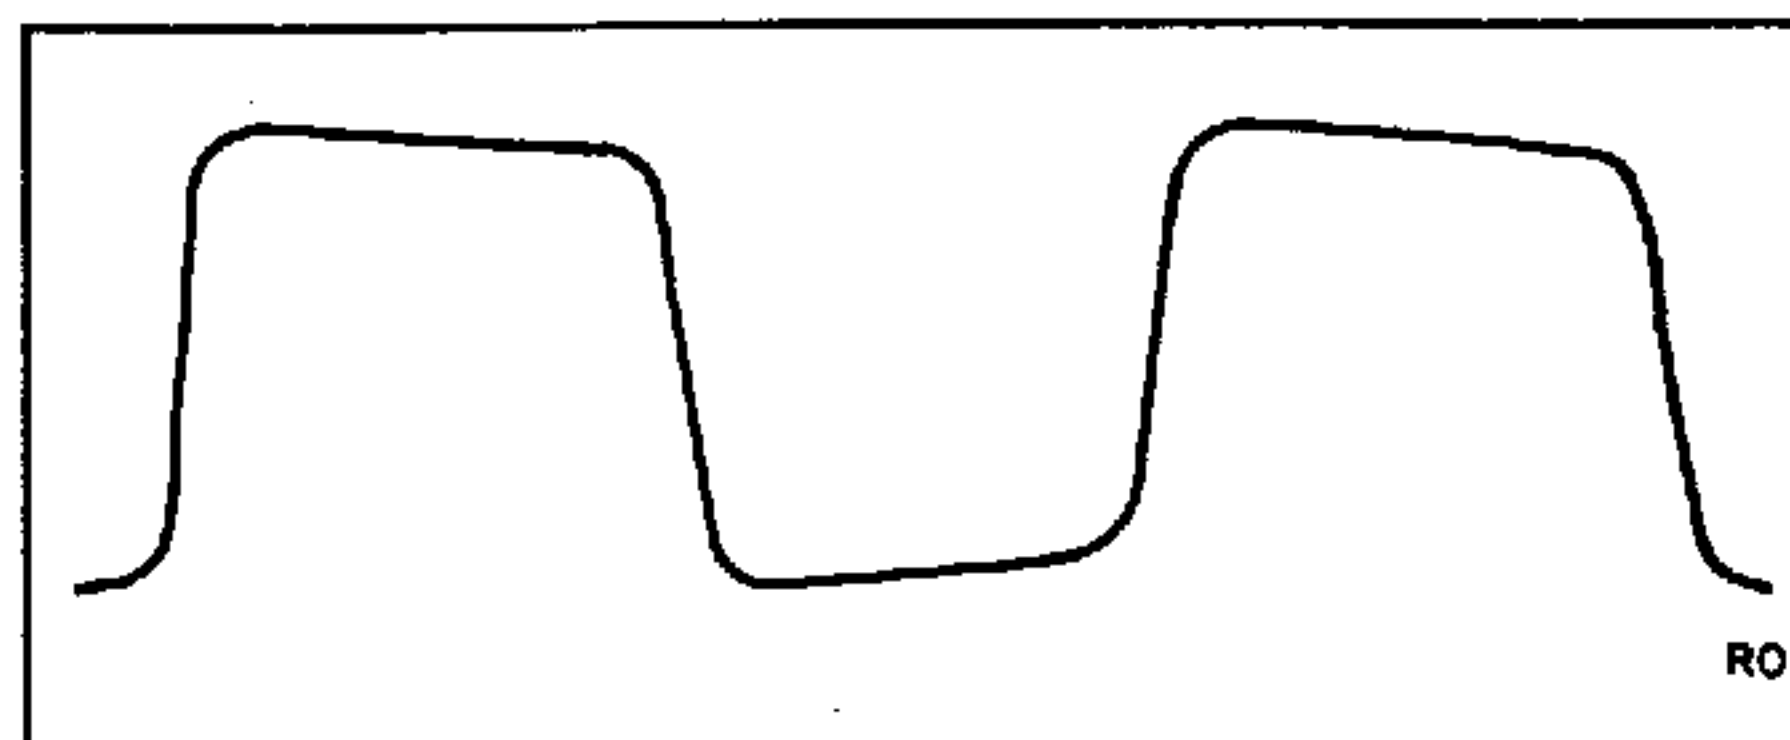

Figure 4-4. Modulator Waveform
i. Waveform should be similar to that shown in figure 4-4, and should have a peak-to-peak amplitude approximately equal to the deflection found in step g. Signal frequency should be 5/6 line frequency.